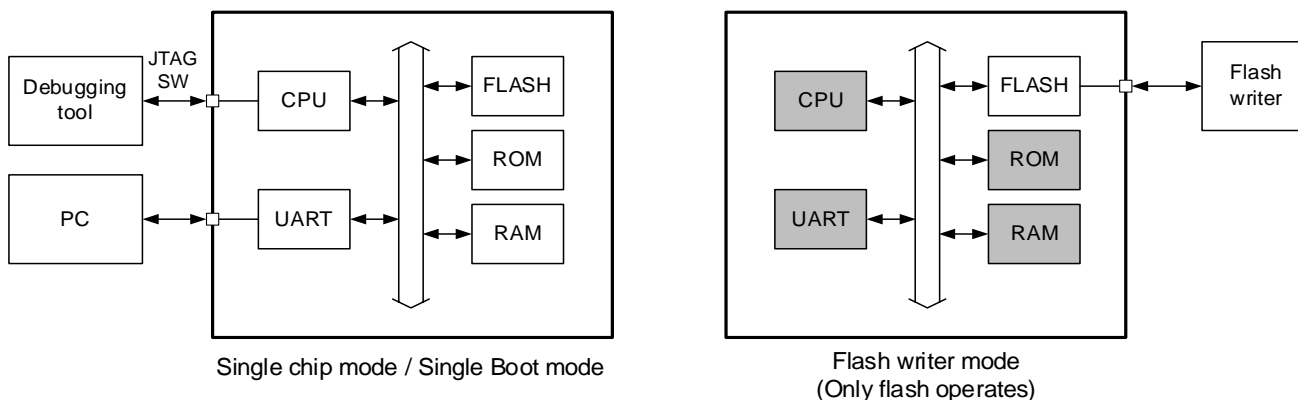

Figure 5.1 Measures for Security Risk
TPM4K Group(1) contains two measures for security risk to prevent unauthorized access. Table 5.22, Table 5.23 and Figure 5.1 show the assumed access paths and protection targets for each operation mode.